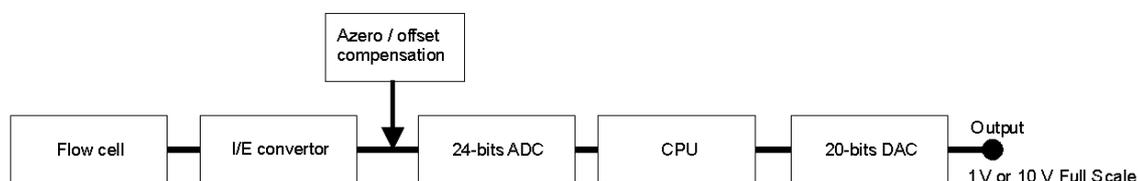

Fig. 11. DECADE II signal processing from electrochemical flow cell to output.
At the working electrode (WE) in the electrochemical flow cell the electron transfer takes place due to an oxidation or reduction reaction. The resulting electrical current is amplified by the current-potential (I/E) converter (Fig. 11).